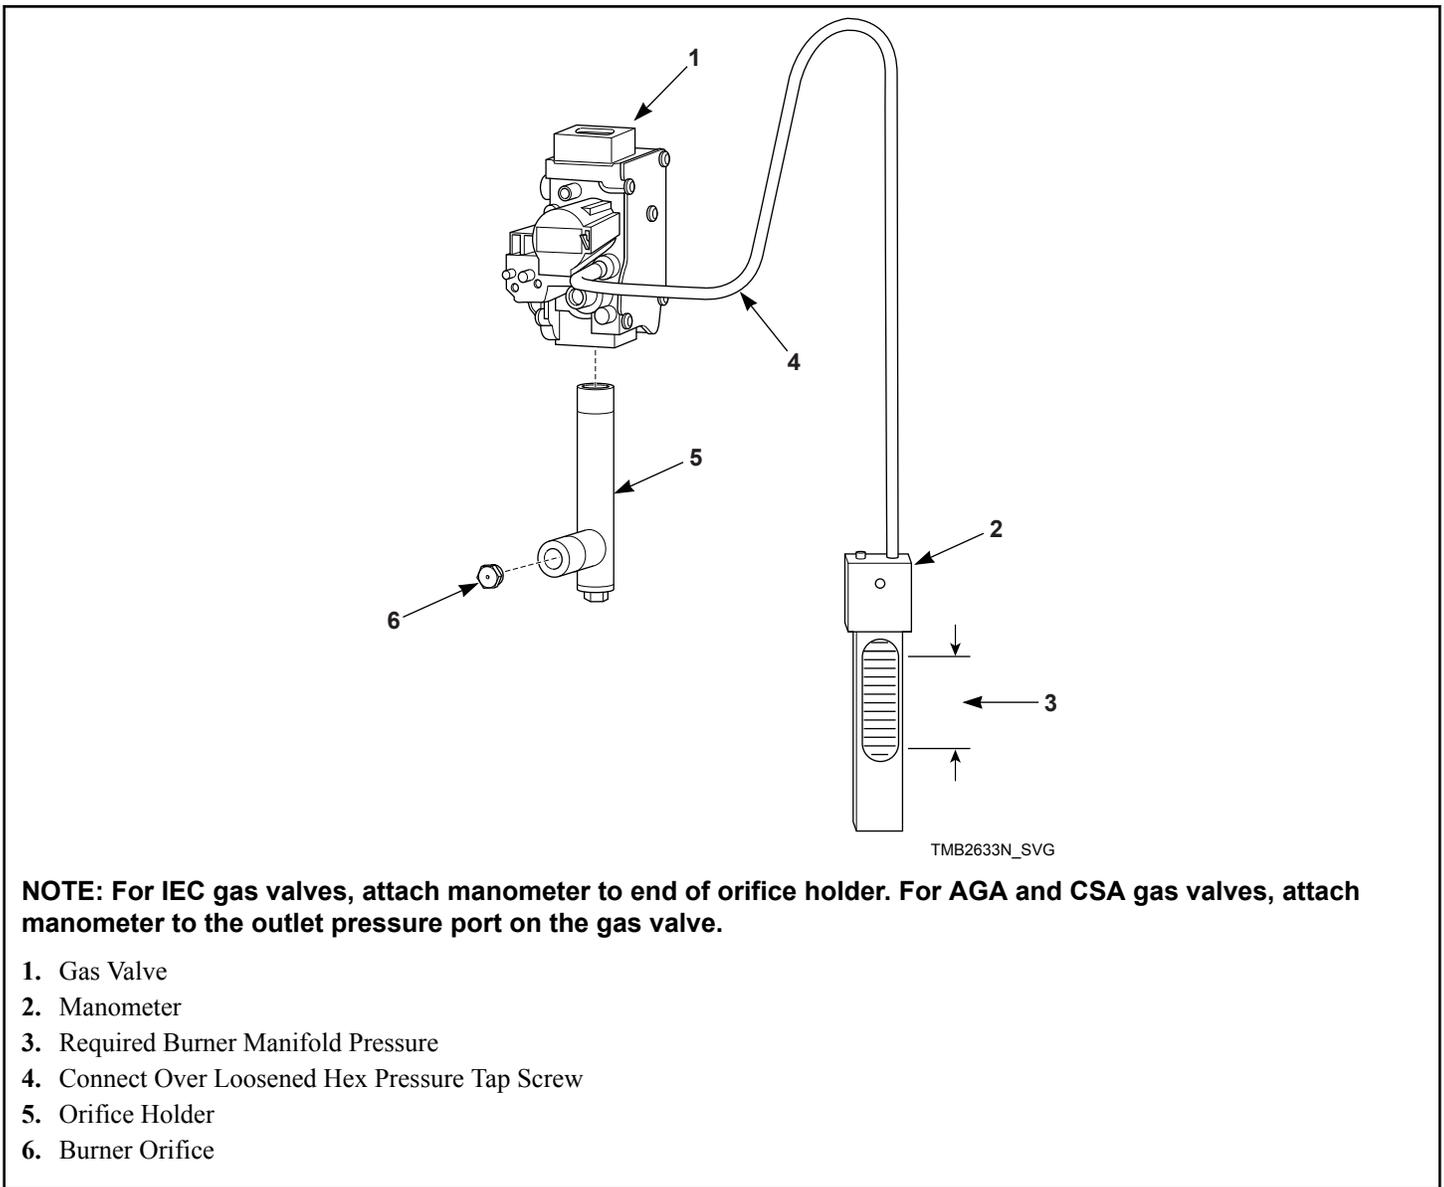

Figure 20
2. Remove orifice holder. Unscrew orifice holder nut near gas valve. Remove the burner orifice(s) from orifice holder. Refer to *Figure 20*.
1. Check gas burner orifice (manifold) pressure as follows. Refer to *Figure 20*.
4. Start tumble dryer and note pressure once flame is burning. Remove regulator cap and adjust regulator screw until the burner orifice pressure per applicable table is achieved. Replace regulator cap. Refer to *Figure 20*.